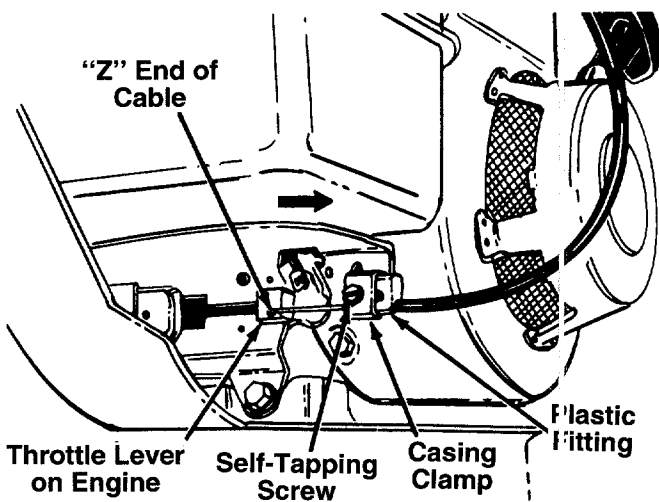

FIGURE 10.
23. Attach the throttle control cable to the throttle control lever on the engine as follows. See figure 10.
- e. Pull the throttle control cable so that the throttle lever on the engine is in the full open position (all the way toward the right side of the unit) as shown in figure 10. Tighten the self-tapping screw to secure the throttle control cable in this position.